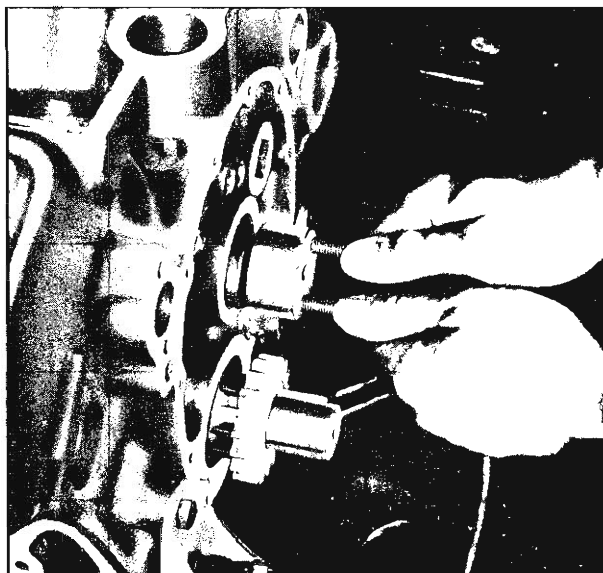

Fig. 15W—Removing Camshaft
6. Install two bolts, 5/16" x 18 x 4" in two of camshaft bolt holes. Remove camshaft from engine (fig. 15W).